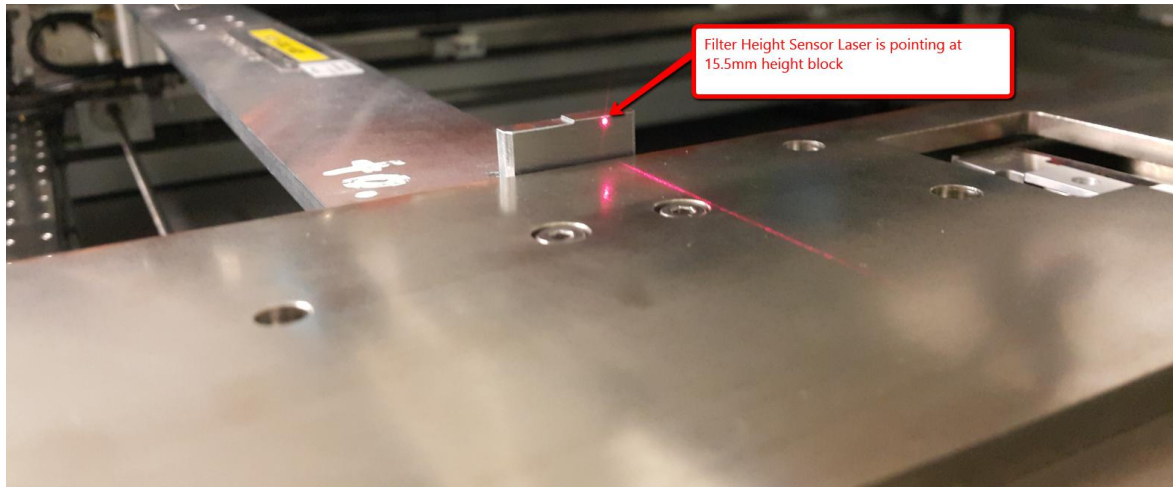

Figure 10 Filter Height Jig
10. Manually move the stage by turning the X-Axis Coupling until Filter Height Laser point at Variable Mag Jig as Figure 10.